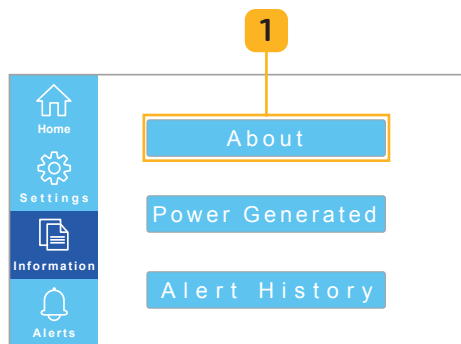

Fig. 6.29 • Select about button
1. Select the **About** button to view information about the unit's Hardware Model, Software Version, and General Parameters (Fig. 6.29).